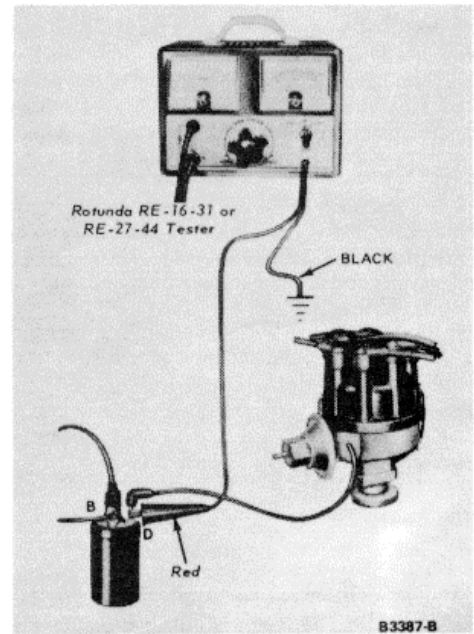

FIG. 4. Battery-to-Coil and Starting Ignition Circuit Test
- Connect the voltmeter leads as shown in Figure 4.